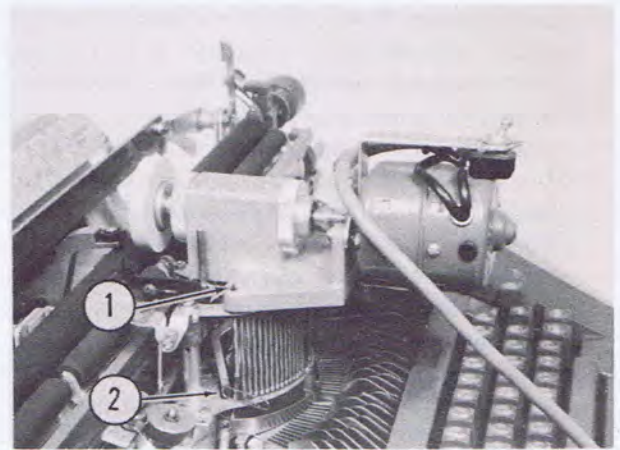

FIGURE 70 HAMMER FACE RESURFACER
14. Hammer Face Resurfacing (Figure 70)